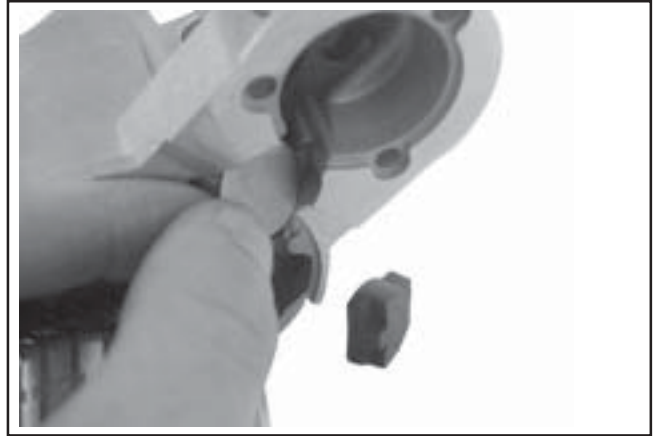

Figure 8-51.
7. Remove the drive lever pivot bushing and backing plate from the end cap. See Figure 8-51.